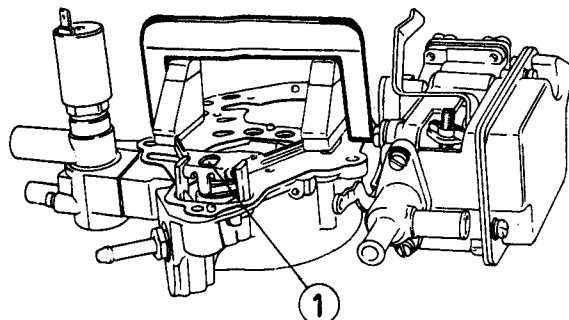

Fig. 16.10 Float level adjustment (Sec 4)
- 10 Adjust as necessary by bending the inner float tag (1) in Fig. 16.10.